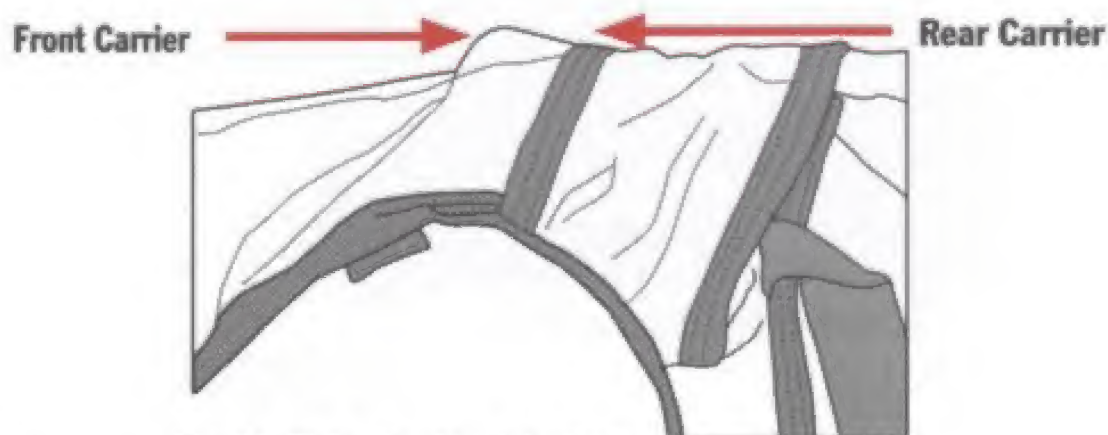

Fig. 22. Right Shoulder interface.
2. Route the right/left shoulder of the Front Carrier into like-side shoulder of the Rear Carrier as shown in Fig. 22.